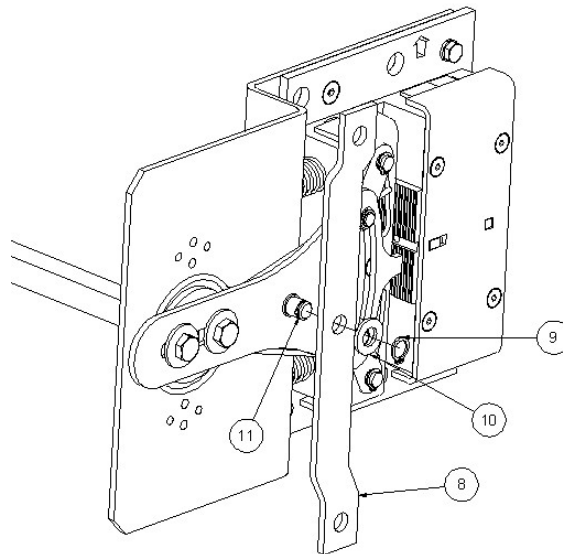

Figure 8: *Installation of the overspeed governor anchor.*
Install the tensor support (20) as indicated in FIGURE 8, and fasten using DIN 933 M5x14 bolts (26) and DIN 127 M5 washers (27). Then align the two axle supports (21) with the tensor support, and subsequently insert the DIN 931 M8 X 100 bolt (22) through the drill hole of the support axle (21) and of the tensor support (20). Introduce the spring and complete by fastening the assembly using a DIN 125 M8 washer (24) and a DIN 985 M8 lock nut (25).